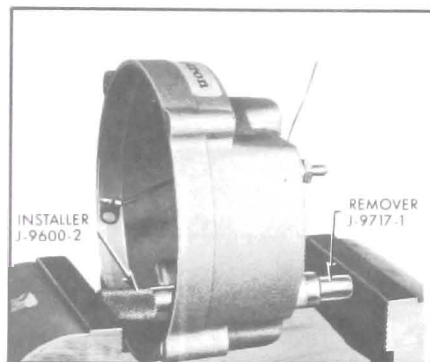

Figure 10-13—Installing a Diode
2. To install a diode, place new diode in Installer J-9600-2. Place slip ring end frame in a vise so that new diode is in position and Remover J-9717-1 supports casting. See Figure 10-13. Tighten vise to install new diode. **CAUTION:** Never attempt to remove or install a diode by striking it,